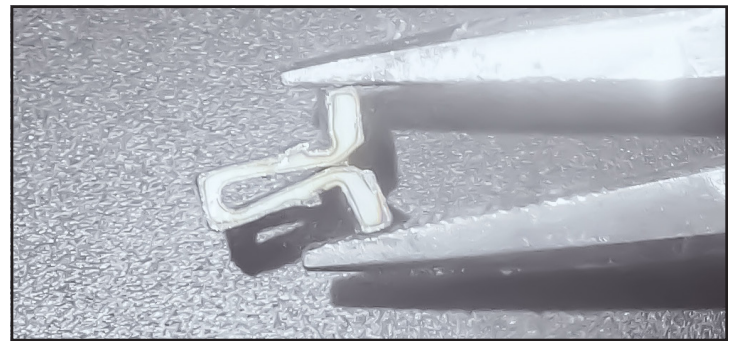

Fig. 10. Squeeze the hinge retention clip.
- a. Compress the hinge retention clip. See fig. 10.